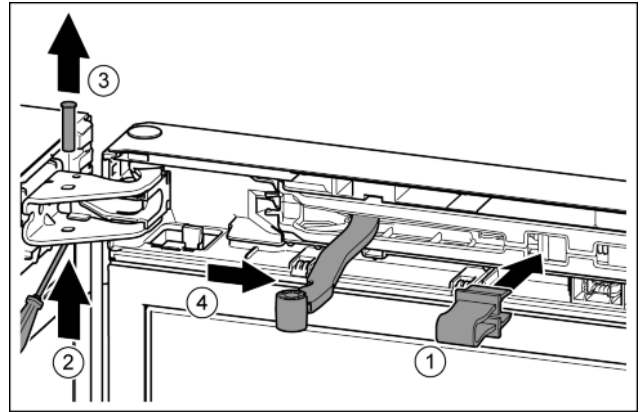

Fig. 8
- Engage the locking device in the opening. Fig. 8 (1)
- Unscrew the bolt with a screwdriver. Fig. 8 (2)
- Remove the bolt in an upward direction. Fig. 8 (3)
- Turn the hinge in the direction of the door. Fig. 8 (4)